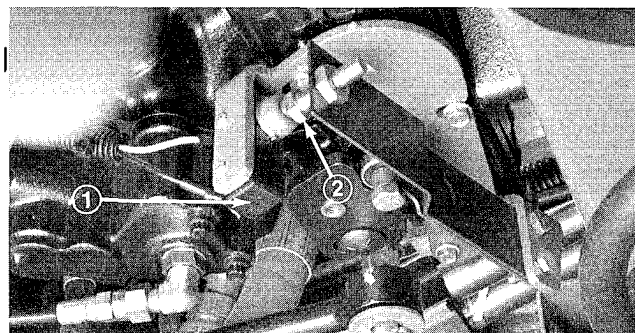

Figure 72
1. Make sure traction pedal is in neutral position. Loosen jam nut and rotate switch adjusting screw until there is a gap between head of screw and switch button (Fig. 72).